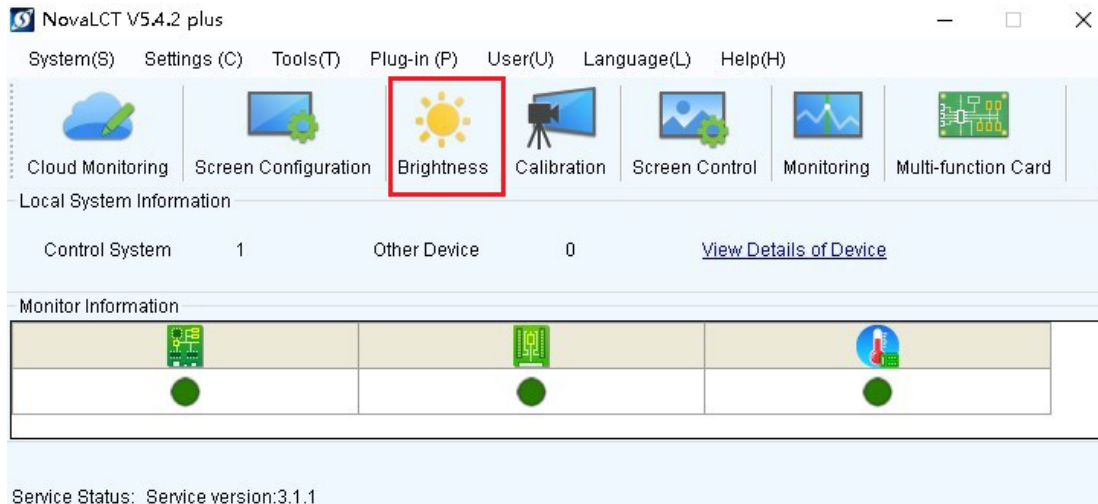

Figure 2-1
2. After screen configuration is complete, click **Brightness**. See Figure 2-1.